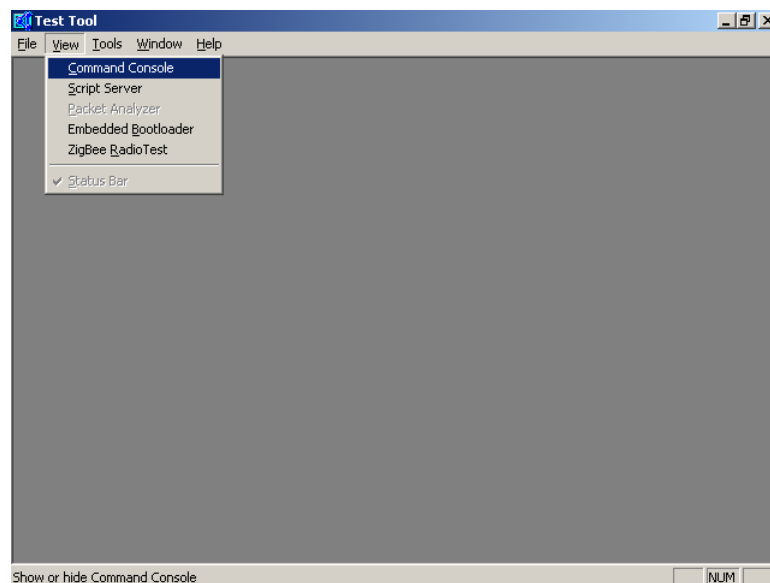

Figure 15 Test Tool Window (Command Console Select)
1. As shown in Figure 15, run the “Test Tool” Application then launch the Command Console application by selecting the “View” menu option and then “Command Console”.